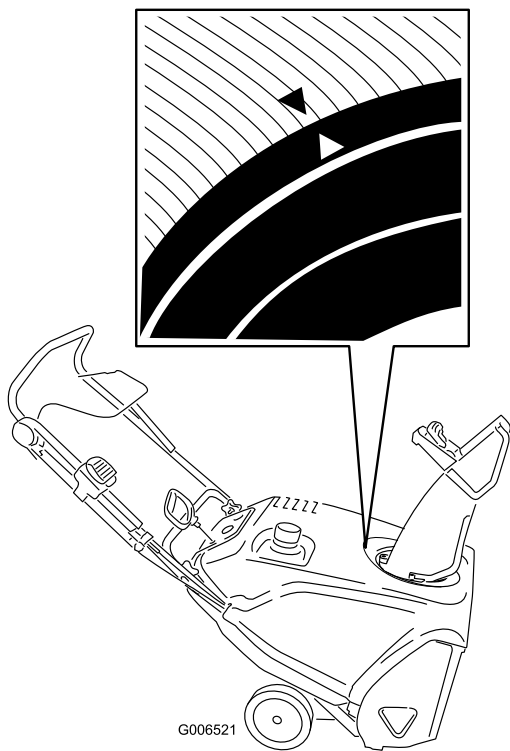

Figure 34
3. Rotate the discharge chute so that it faces straight ahead and the arrow on the back of the discharge chute aligns with the arrow on the shroud (Figure 34).